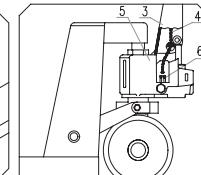

Fig.2
Take screw nut which is at the end of chain (4) and hitch the groove of lever board (6). See figure 2 and 4.